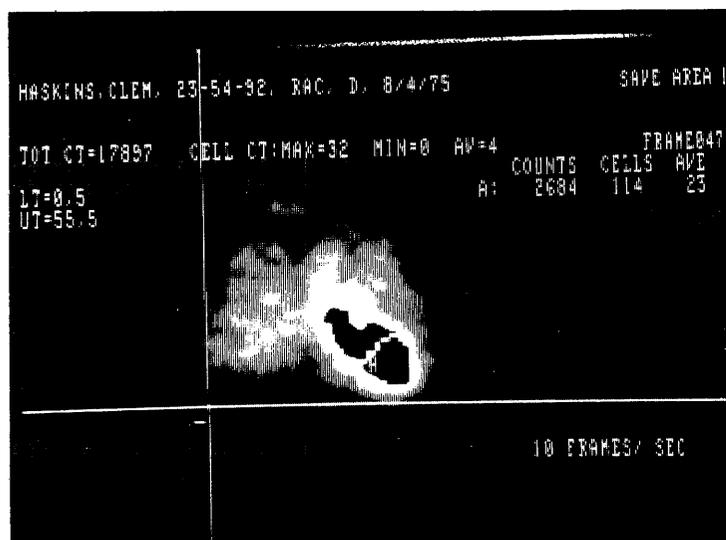

FIGURE 3. ROI defined over end-diastole left ventricle
- 3) enter irregular region of interest (IR) and outline the shape of the left ventricle. (Figure 3)